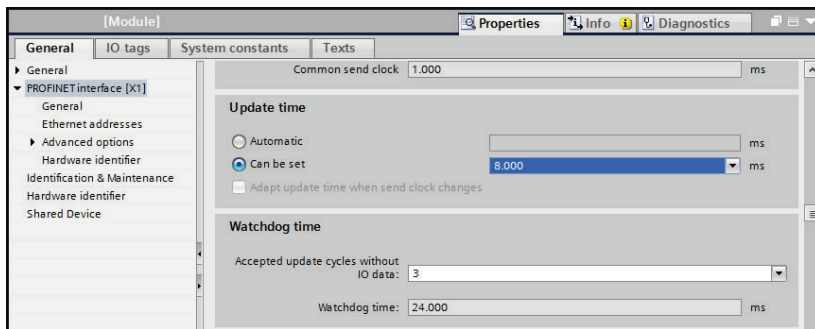

Figure 88: Set I/O Cycle Update Time
3. Set the I/O cycle **Update time** and **Watchdog time** as shown in Figure 88.